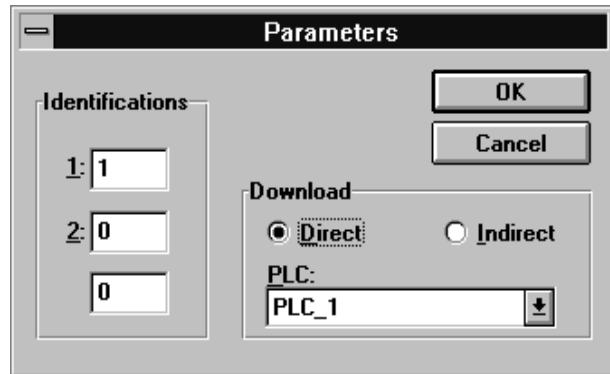

Bild 9-7 Parameters Dialog Box with Settings
- Click on the *Parameters* dialog box. The dialog box shown in figure 9-7 is displayed. Set the type of download here by clicking *Direct*.